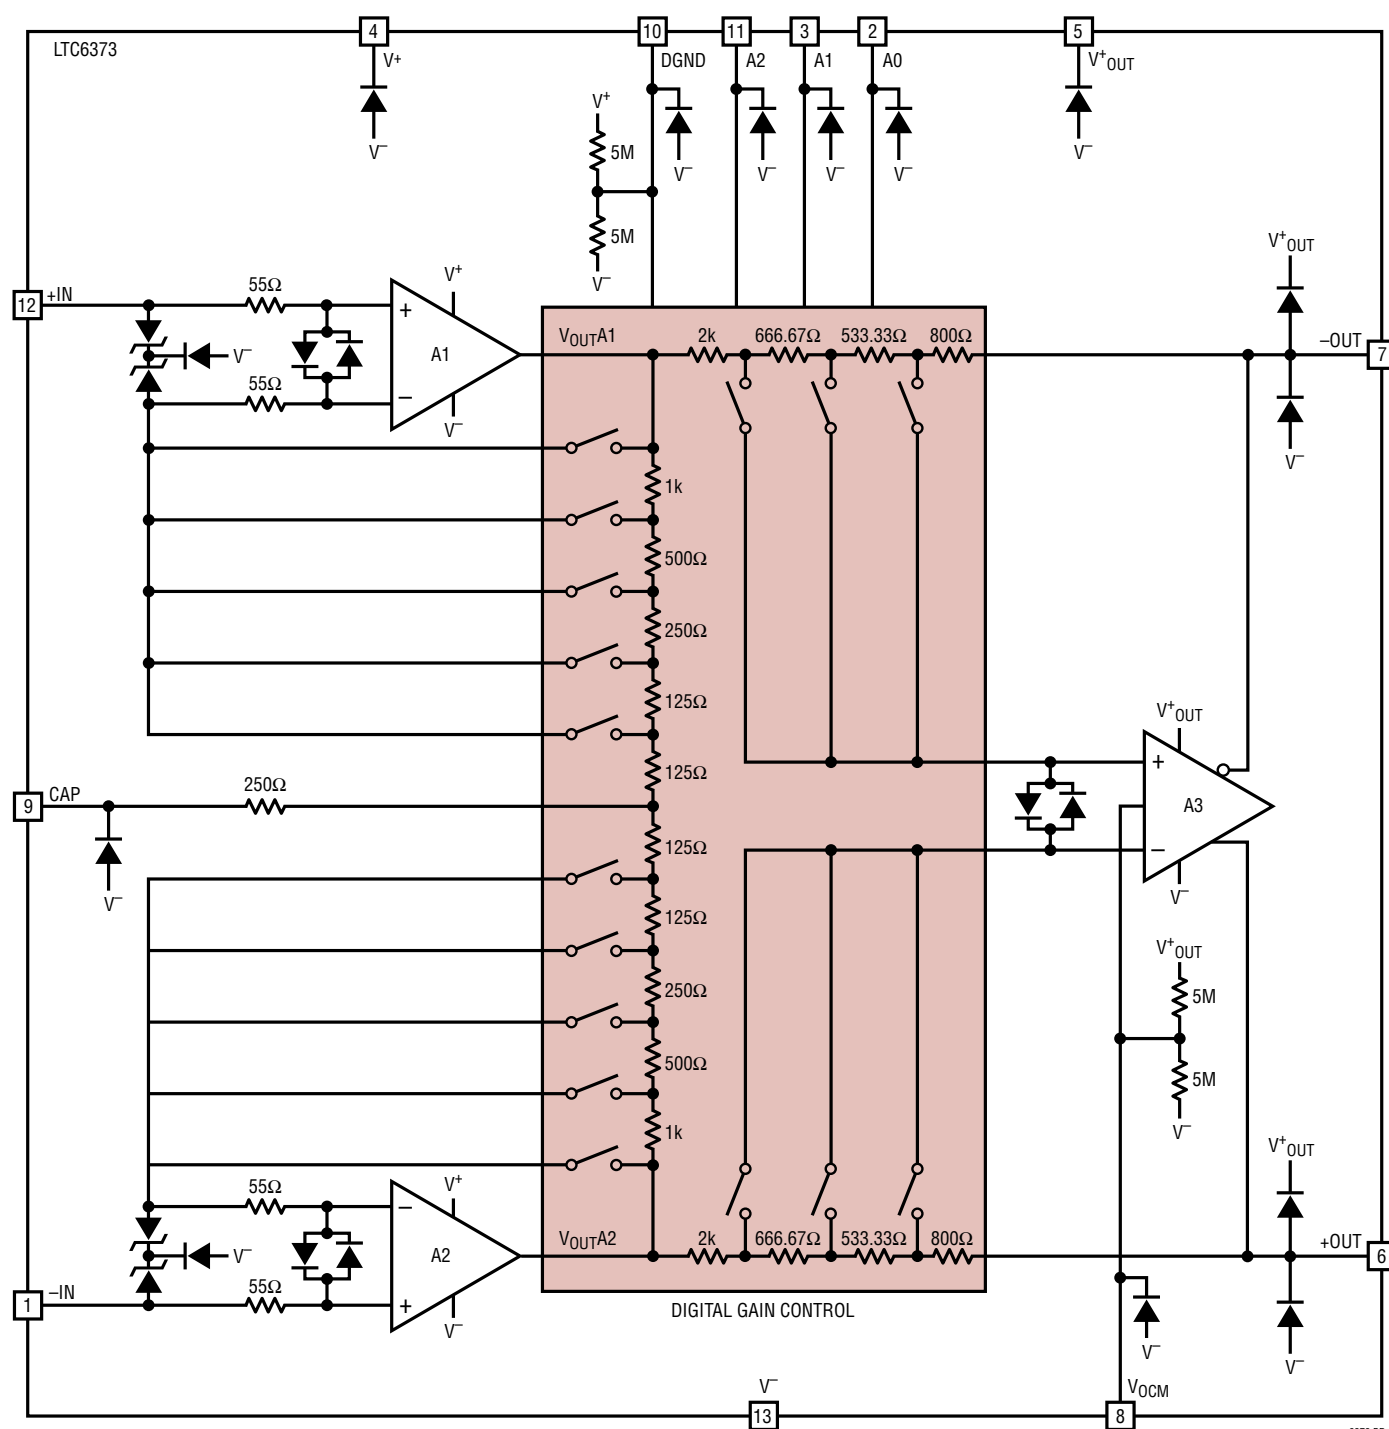
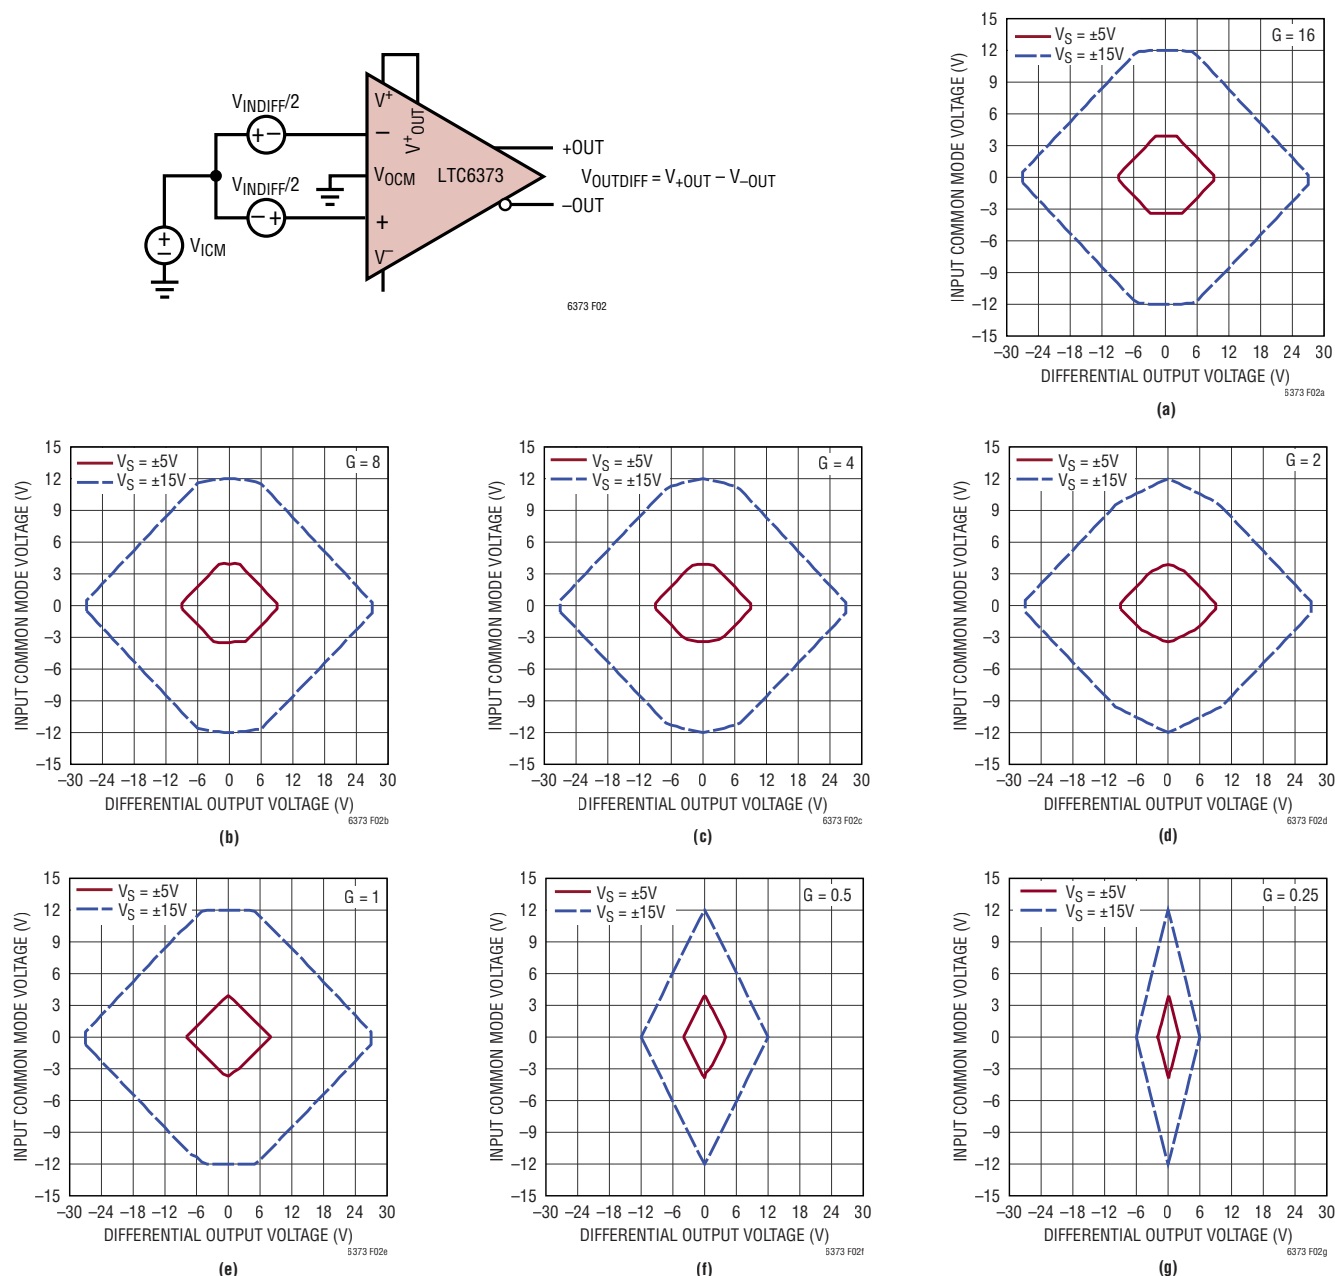

Figure 1. Simplified Block Diagram
Figure 2. Input Common Mode Range vs Differential Output Voltage for Each Gain Setting of LTC6373 with No Load
**$V^+_{OUT}$  (Pin 5):** Positive Power Supply for the Output Differential Amplifier inside the LTC6373 (the amplifier marked as A3 in Figure 1 of this data sheet).  $V^+_{OUT}$  pin is normally tied to  $V^+$  pin, however the user may also choose a lower voltage for  $V^+_{OUT}$  to save power dissipation or to help protect ADC inputs. The voltage on  $V^+_{OUT}$  pin should never be higher than  $V^+$  pin. The operating voltage range for  $V^+_{OUT}$  is  $(V^- + 9V) \leq V^+_{OUT} \leq V^+$ .
The LTC6373 is a monolithic instrumentation amplifier based on the classic 3-op-amp topology, as shown in the Block Diagram of Figure 1. A parallel interface allows users to digitally program gains to one of the seven available settings ( $G = 0.25, 0.5, 1, 2, 4, 8$ , and  $16\text{V/V}$ ) while the 8th state puts the part in shutdown mode (which reduces the current drawn from the supplies to  $220\mu\text{A}$ ). Gain control is achieved by switching resistors in an internal, precision resistor array (as shown in Figure 1). Although the LTC6373 has a voltage feedback topology, the gain-bandwidth product increases at higher gain settings because each gain has its own frequency compensation, resulting in increased bandwidth at higher gains and minimum phase variation across all gains.
associated with internal nodes, as they experience a combination of gained differential signal and common mode signal. Referring to the Simplified Block Diagram of Figure 1, the output swing of amplifiers A1, A2, and A3 as well as the common mode input range of the output differential amplifier A3 impose limitations on the valid operating range. The graphs in Figure 2 show the maximum input common mode voltage limits where a valid output is produced for each gain setting of LTC6373.
Subplots (a)-(g) of Figure 2 show the input common mode voltage ( $V_{ICM}$ ) range allowed for a given differential output voltage ( $V_{OUTDIFF}$ ), under various combinations of gain ( $G$ ) and supply ( $V_S$ ) settings. In each plot, the output stage positive supply pin  $V^+_{OUT}$  is tied to the main positive supply pin  $V^+$ ,  $V_{OCM} = 0V$  (mid-rail) and there is no load.
To prevent damage, the LTC6373 has a comprehensive protection scheme, especially on the input pins, as illustrated in the Simplified Block Diagram of Figure 1. The input current applied to the LTC6373's input pins should be kept under  $\pm 10mA$ . To achieve additional input protection, external series resistors and/or low leakage clamp diodes should be used.